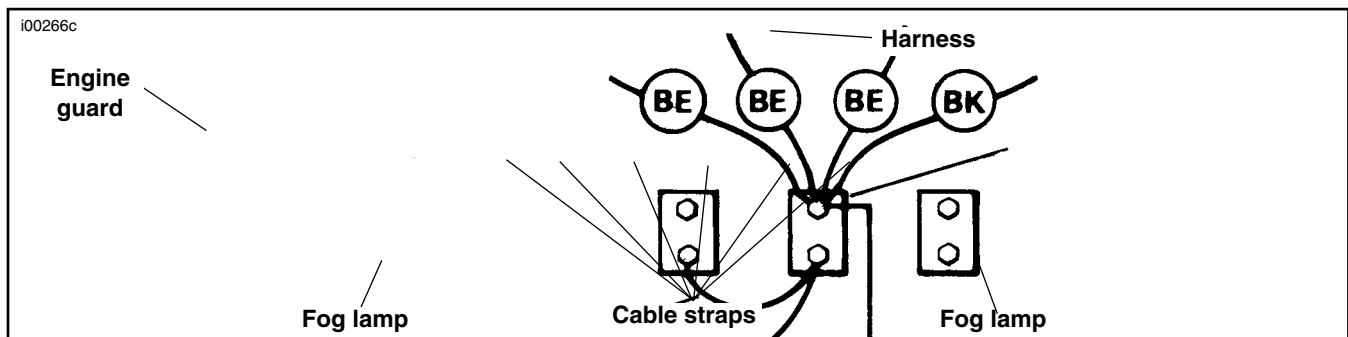

Figure 11. Fog Lamp Mounting (Rear View)
1. See Figure 11. Install the fog lamps on the engine guards as shown, but do not tighten at this time.